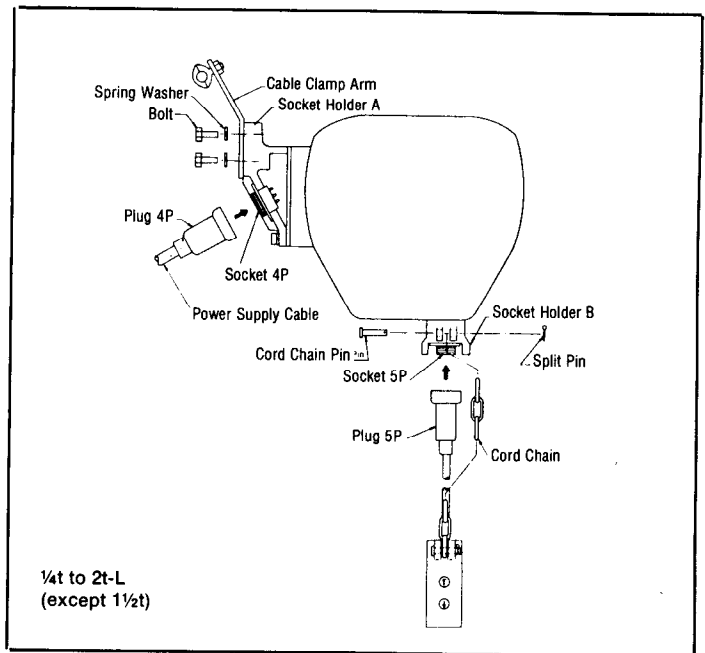

Fig. 6
- Install two button type pendant per Fig. 6 and 7.